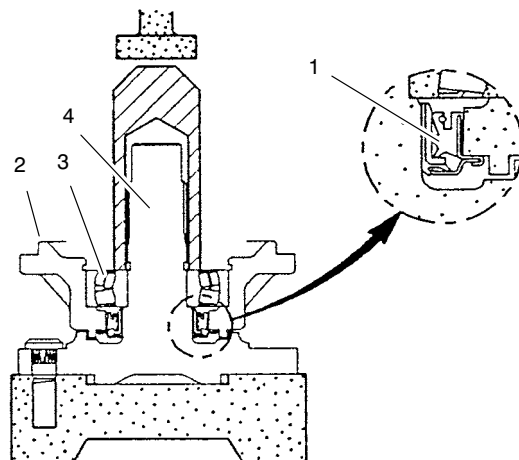

Figure 15
1. Coat new axle shaft seal with grease and install in axle cover as shown (Fig. 15).
2. Press the axle cover and bearing assembly onto the axle shaft. Press only on the inner race of the cover bearing (Fig. 15).